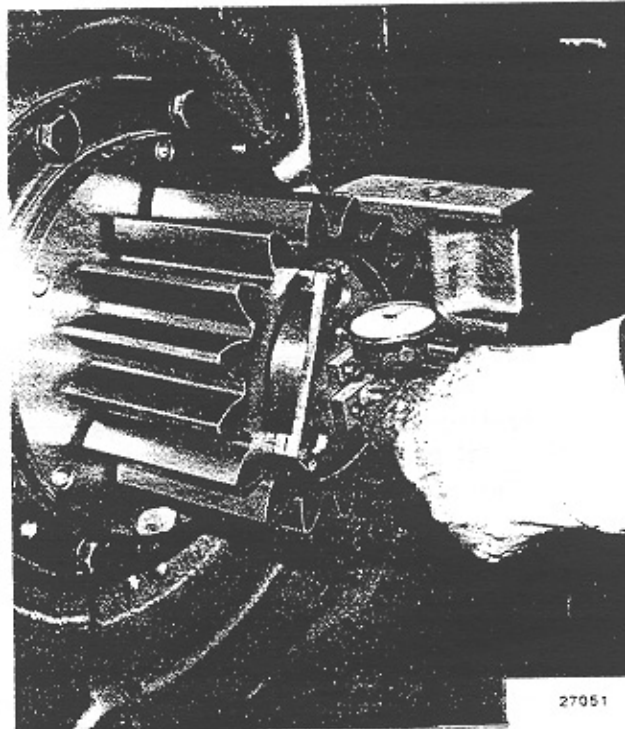

Fig. 35 - Measuring Pinion Advance
6. Measure and record pinion position with respect to the shaft with a micrometer depth gauge, Fig. 35.